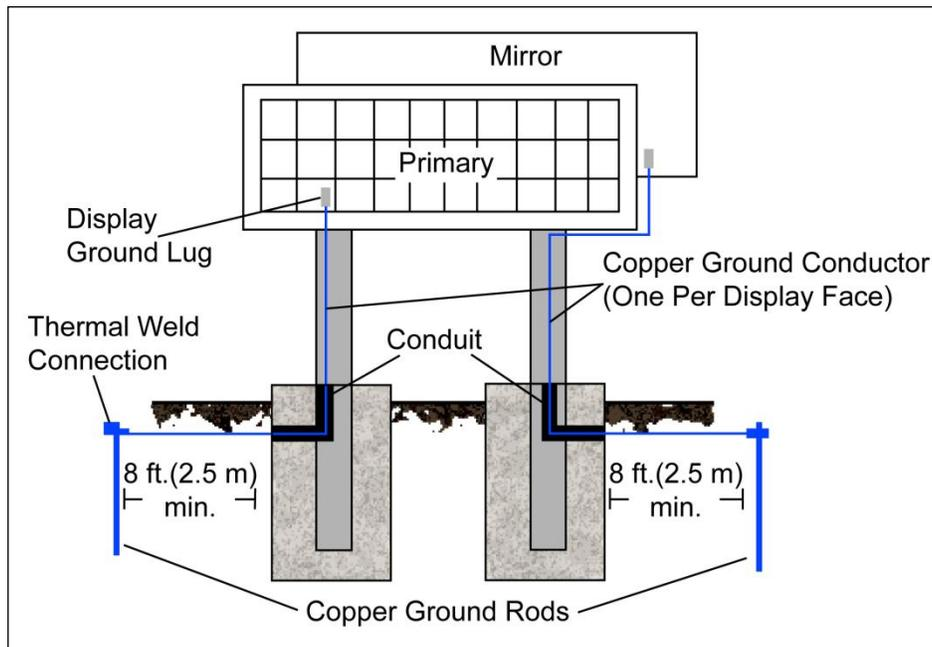

Figure 10: Correct Grounding
- Connect the display system to the earth ground, as shown in **Figure 10**. Proper grounding protects the equipment from electrical disturbances and lightning.
- **Resistance to ground 10 ohms or less:** This is required by Daktronics for proper display performance. If the resistance to ground is higher than 10 ohms, install additional grounding electrodes to reduce the resistance. The grounding electrode should be installed within 25' (7.6 m) of the base of the display and must be connected to the ground lug on the back of the display. Refer to **Figure 10**.